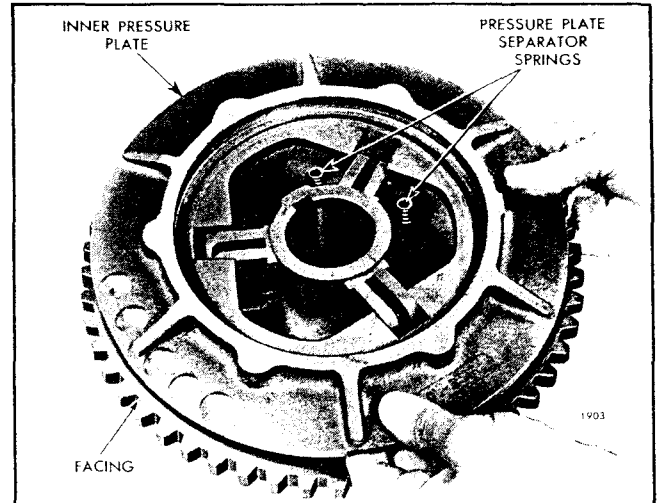

Fig. 13 - Installing Inner Pressure Plate With Springs and Clutch Facing in Plate
- Place the outer pressure plate (Fig. 13) on a bench with the hub end of the pressure plate up.